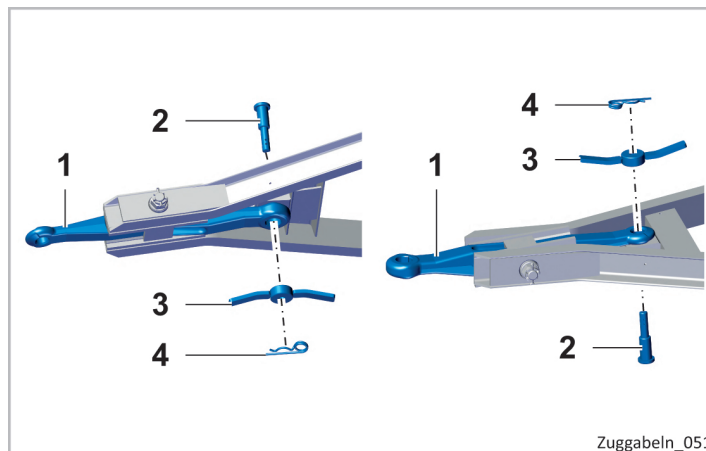

Figure 27: Layout of a swivel towing eye
- ▶ Remove the spring split pin (4).
- ▶ Unscrew the toggle nut (3) and remove the positioning pin (2).
- ▶ Swivel the towing eye (1) 180°.
- ▶ Insert the toggle nut (3) and positioning pin (2) in the towing eye so that the toggle nut is on the towing eye side. Fastening is either on the top or bottom, depending on the towing eye used see Fig. 27.
- ▶ Tighten the toggle nut (3) by hand.
- ▶ Secure the positioning pin (2) with the spring split pin (4) so it cannot come loose.